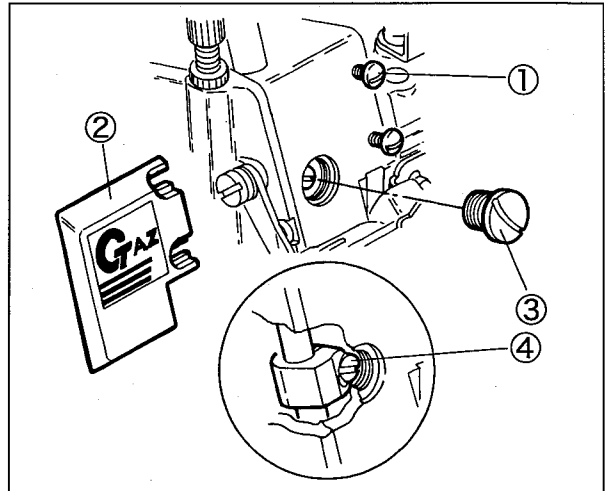

Fig. 52
- (1) Loosen the screws ① and remove the logo plate ②. (Fig. 52)
- (2) Remove the screw ③.
- (3) Raise the needle bar at the highest point while rotating the machine pulley.
- (4) Loosen the screw ④ and adjust the needle bar while moving it up and down.